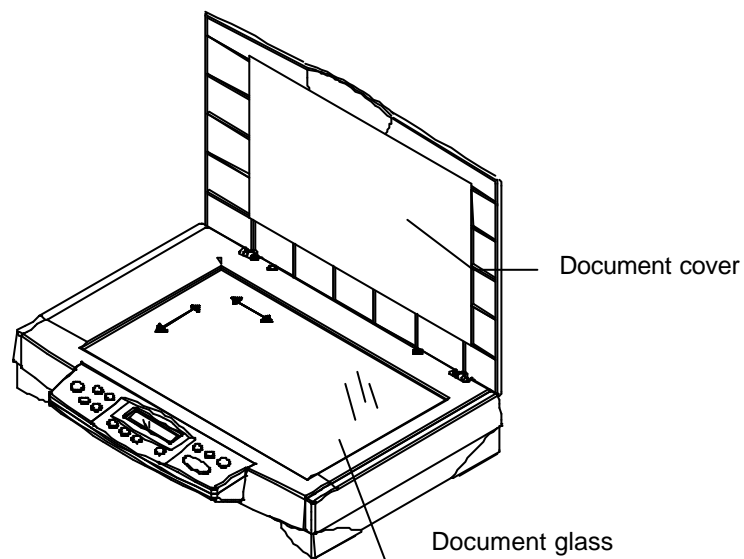

Figure 7.1 Cleaning
- (1) Open the document cover.
- (2) Dip a clean cloth with non-corrosion solvent like alcohol (purity above 99.5%).
- (3) Wipe the document cover and the document glass gently as shown in Figure 7.1 Continue until the entire document cover and document glass is cleaned and observe that no cleanser remains on the surface.
- (4) Close the document cover. Your DS610CU is now ready for use.